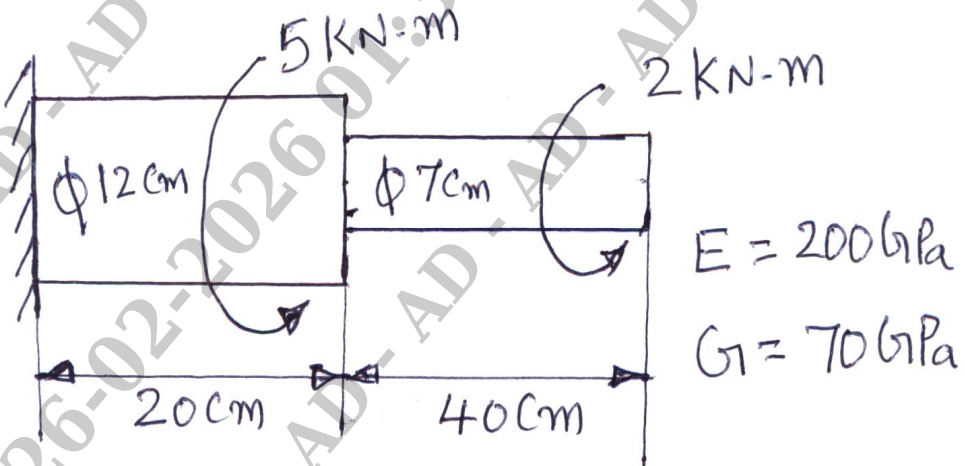

Fig. Q. 6 (b)
b. For the circular stepped shaft shown in fig. Q. 6(b). Determine stresses and angle of twist.